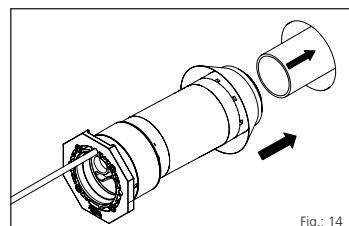

Fig.: 14
- 6** Insert the MIS100ND VT63 from the inside of the building via the driving pipe into the opening until the shield is located outside the wall (see Fig. 14).
*The resin filler tube has to run through the top (see Fig. 14).*